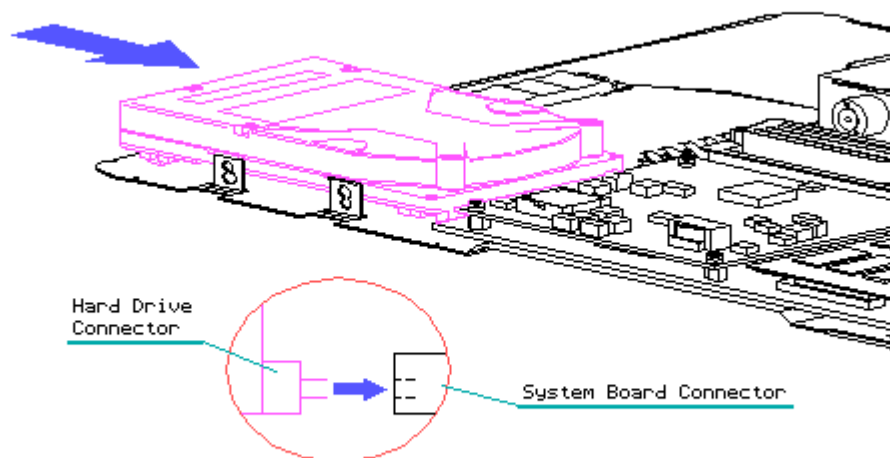

Figure 3-50. Installing the Hard Drive Mounting Screws
2. The mounting holes in the mounting brackets are in the shape of a "snowman." This hole configuration was designed to accommodate both types of hard drives. The configuration provides a mounting hole and a mounting slot on each side of the hard drive. Your hard drive will align with either the upper or lower mounting holes/slots. Install the mounting screws in the round holes first, then in the slotted holes (Figure 3-50).